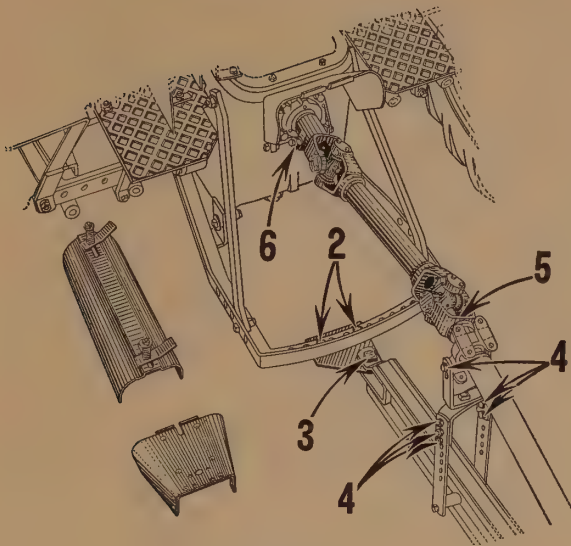

Fig. 32
2. (Fig. 32.) Bolt extension drawbar plate to underside of tractor swinging drawbar guide.
3. (Fig. 32.) Connect Binder to extension drawbar plate.
4. (Fig. 32.) Adjust height of power shaft front bearing to level power line as shown.
5. (Fig. 32.) Remove tape around key in front end of telescoping pipe for power drive. Remove cap screw, lugged lock washer and notched retaining washer from front end of telescoping pipe. Slide rear universal joint onto front end of telescoping pipe and replace notched retaining washer, lugged lock washer and cap screw. Be sure to fit bent lug on lock washer into notch in retaining washer and to bend remaining lugs on lock washer over head of cap screw.